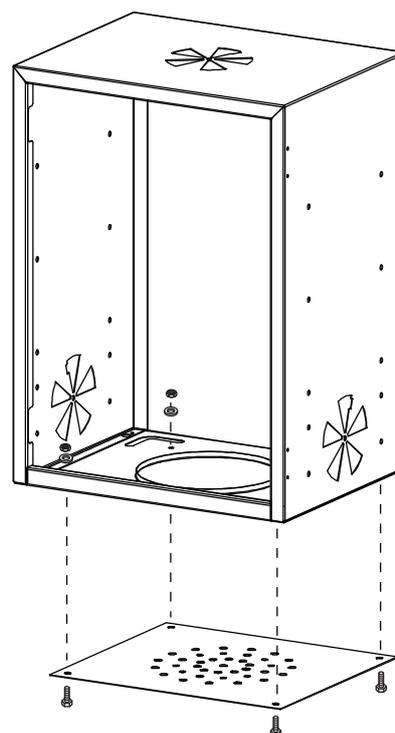

FIG. 5
Find the Heat Shield (10) and mount to the bottom of the Sidekick Smoker with small bolt (A), small washer (B) and small hex nut (F) (see Fig. 5). Do not over tighten the Heat Shield as you may damage the porcelain finish (See Fig 3 or 4).